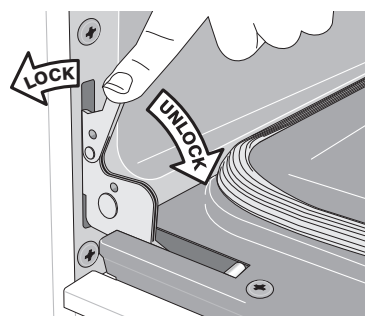

Figure 18: Hinge lock/unlock positions
2. Pull the door hinge locks on both left and right door hinges down from the oven frame completely towards the oven door (Figure 18). A tool such as a small flat-blade screw-driver may be required.
4. Push the door hinge locks up towards and into the oven frame on both left and right oven door hinges (Figure 18) to the locked position; then, close the oven door.